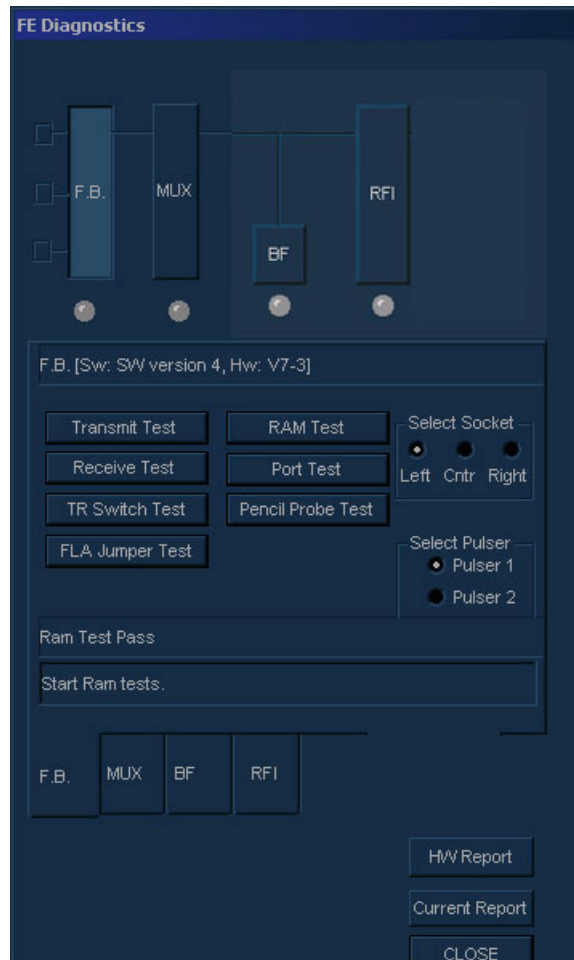
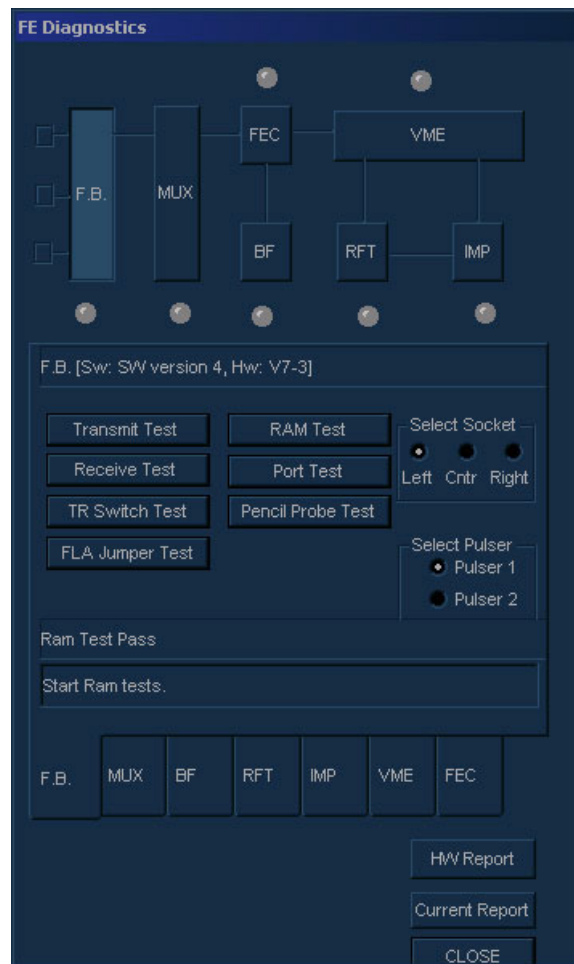

Figure 7-24 F.B. Tab - FE Diagnostics Dialog Box - RAM Test (RFI Configuration)
Figure 7-25 F.B. Tab - FE Diagnostics Dialog Box - RAM Test (RFT Configuration)
- 2) Trackball to the **RAM Test** button and press **Select**. The RAM test is performed and the results are displayed in the **Comments** area, as shown in Figure 7-24 (or Figure 7-25) below: